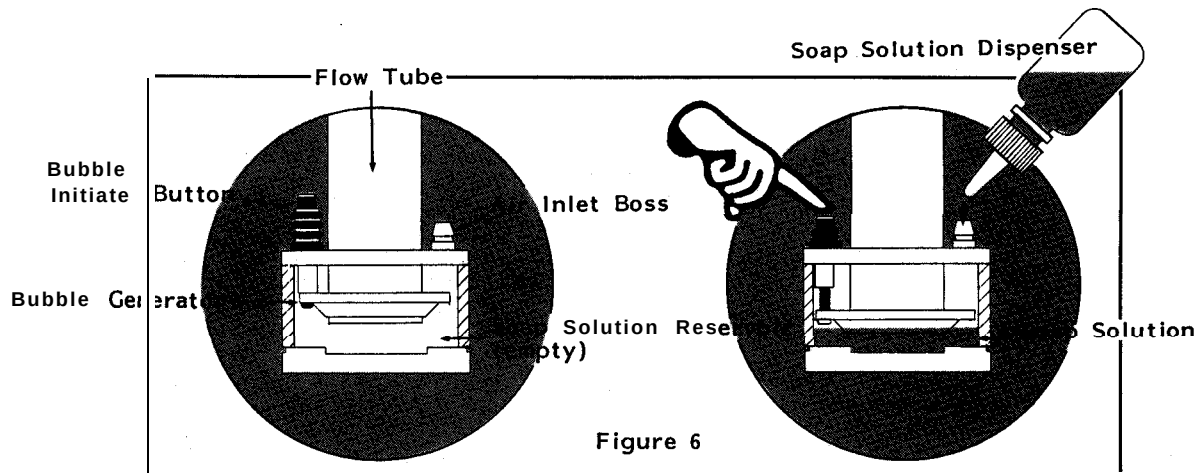

Figure 6
1. Remove the Storage Tubing (25) from the upper Outlet Boss 26) of the upper cell. Fill the dispenser bottle provided with Cilibrator soap solution. Using the rubber Storage Tubing as a funnel, slowly add soap solution from the dispenser.
2. The amount of soap needed is determined by depressing the Bubble Initiate Button (22) and holding it down in the lower position. Continue to add enough soap solution until the angled edge at the bottom of the Bubble Generator Ring (21) is immersed in the solution. Do Not Overfill! (See fig. 6)
3. After filling is completed, the rubber Storage Tubing (25) may be removed completely. Recap the soap dispenser bottle for later use. **NOTE:** If the Flow Cell Assembly is not going to be used for a prolonged period of time, reinstall the rubber Storage Tubing between the inlet and outlet bosses (23 & 26). This will **prevent** evaporation from occurring which may cause the solution's concentrations to alter.